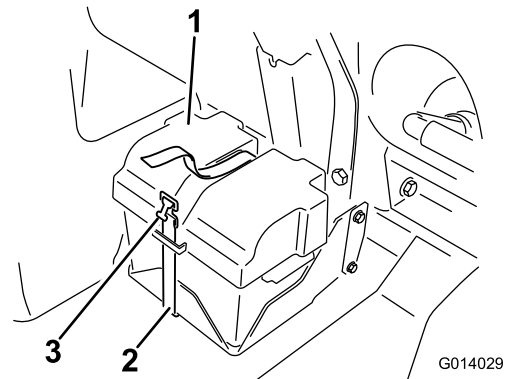

Figure 80
2. Remove the battery cover and disconnect the negative (black) ground cable from the battery post (Figure 80).
4. Install the battery cover and secure it with the strap that you removed previously (Figure 80).